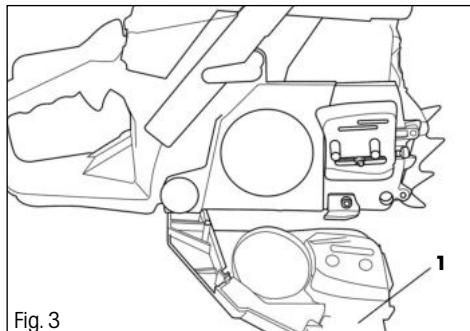

Fig. 3
- Loosen two nuts and take off the sprocket cover (Fig. 3, point 1).